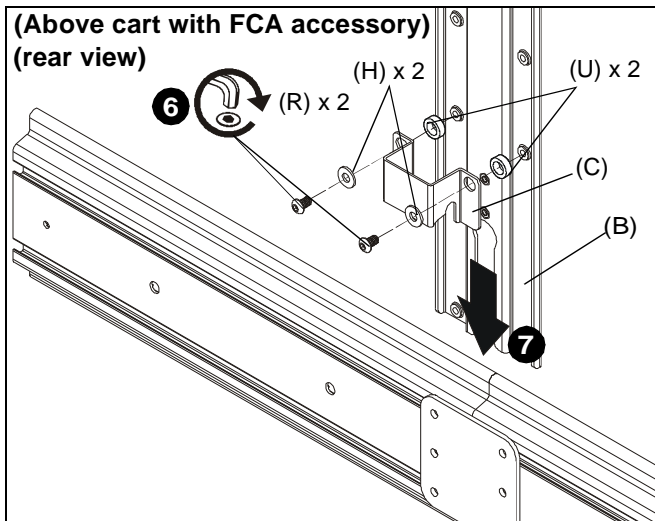

Figure 22
6. Use two 1/4-20 x 7/16" button head cap screws (R), two large washers (H) and two 1/2" spacers (U) to secure shelf bracket (C) to main bracket (B). (See Figure 22)
7. Slide main bracket (B) onto front of cart mount head assembly until shelf bracket (C) rests on top of head assembly. (See Figure 22)